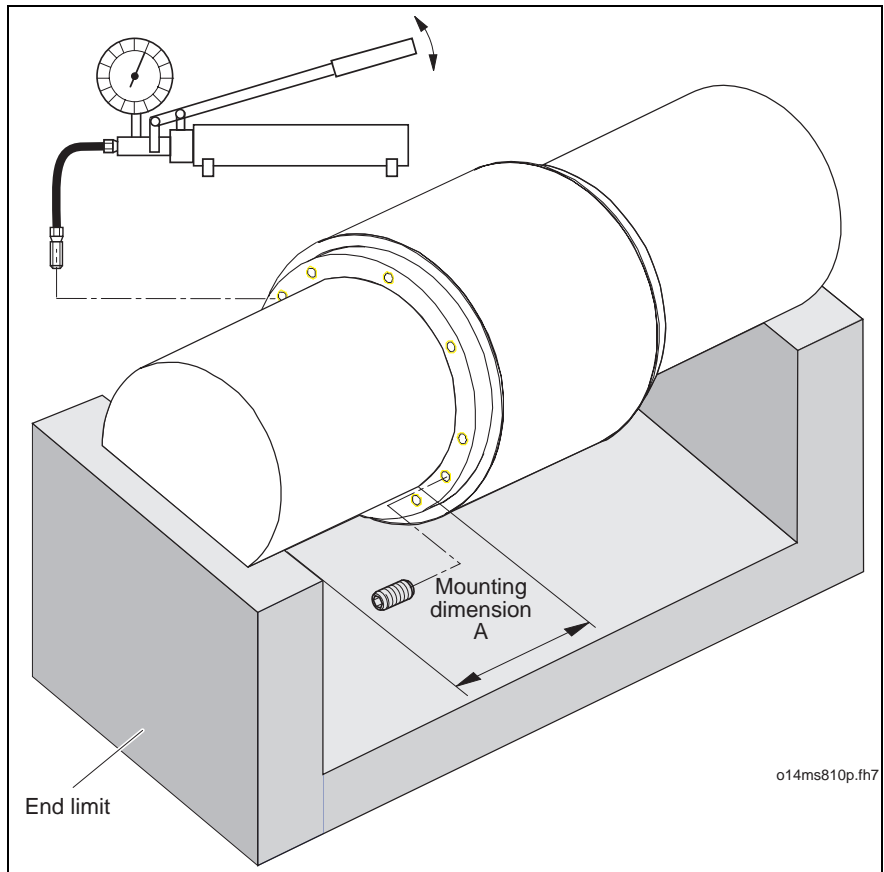

Fig. 8-17: Example of a stop for removal
⇒ Mount end stop (example: see Fig. 8-17). Mount as per (A) shown on table (see Fig. 8-18) of the end stop.